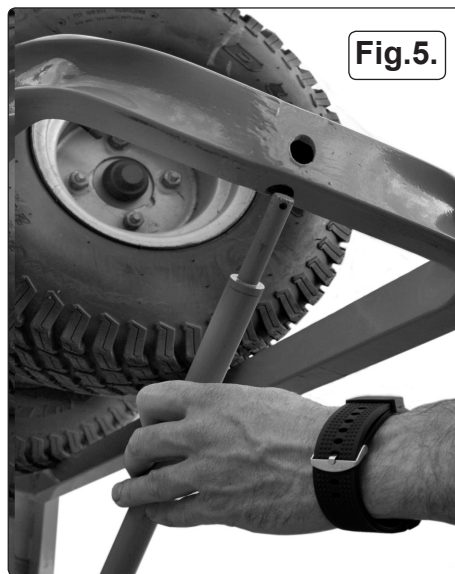

Fig.5.
- 3.2.9. When raised to its full height, place the safety support rod between the lifting cradle and the base frame (fig.5), two people may be required for this operation as the tilting frame will need to be lowered onto the safety support rod whilst it is held in place.